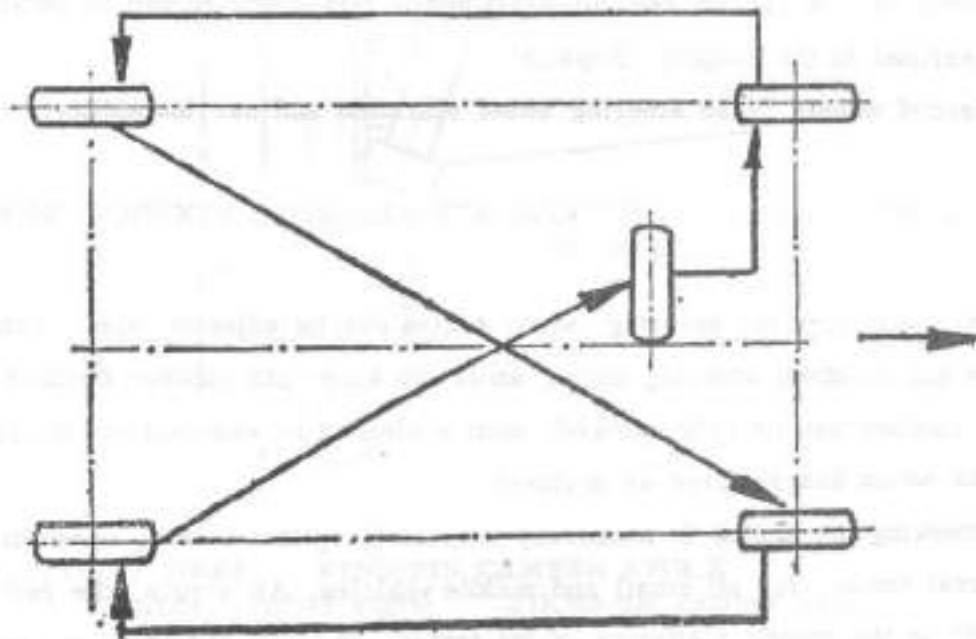

Fig. 2. 49. DIAGRAMA OF CHANGING WHEELS BETWEEN THEM.
After a car running of about 6000 km, in order to obtain an uniform wear of tyres, i.e. their maximal endurance, perform the changing of wheels between them, as shown in the fig. 2. 49.
- Take down the spare wheel and fit repaired wheel on its place, in order to respect the above indicated wheels changing (fig. 2. 49).